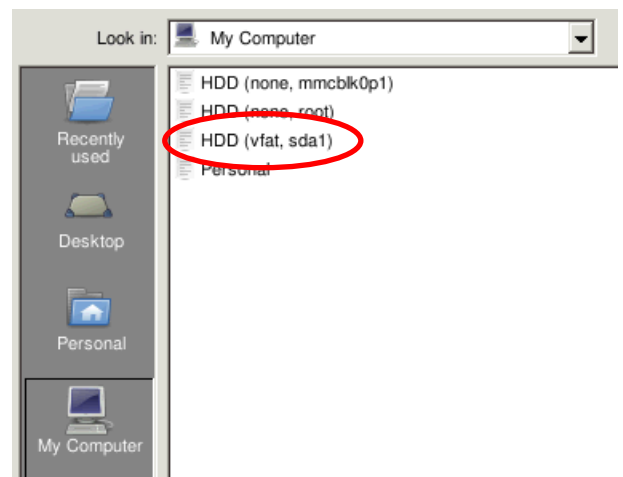

Figure 9 CANTool - USB Drive.
12. Choose *HDD (vfat, sda1)* (Figure 9) An USB drive, depending on the type, can be visualized as *sda*, *sda0*, *sda1* or *sda2*.